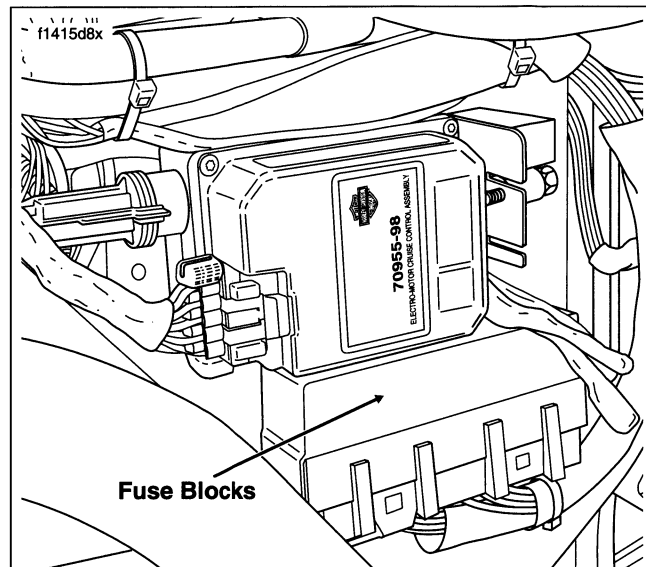

Figure 49. Left Side Cover Removed
3. See Figure 49. Gently pull side cover from frame down-tubes (no tools required). Radio fuses are located in the fuse block.